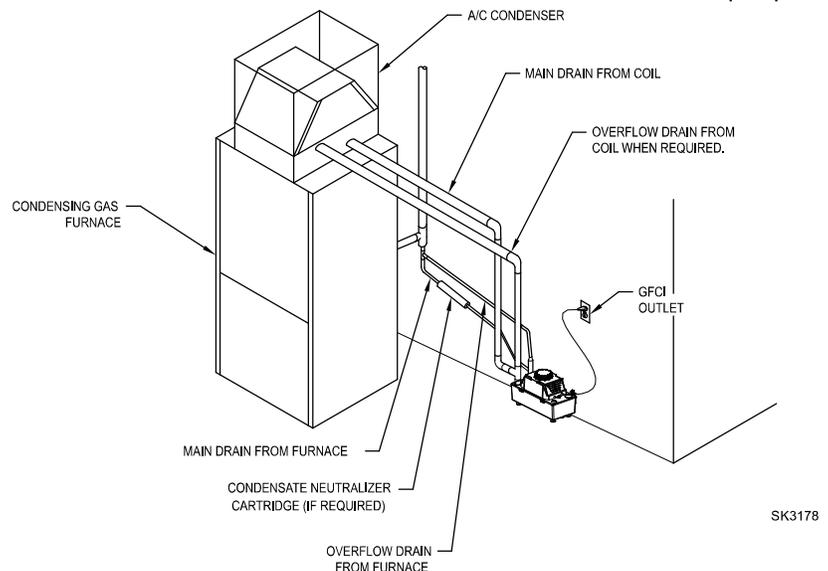

Figure 2.2
- 2.2) Plumb, flexible tube or pipe, from the condensate drain and/or from the furnace drain to the inlet hole(s) on the pump. Refer to Figure 2.2.